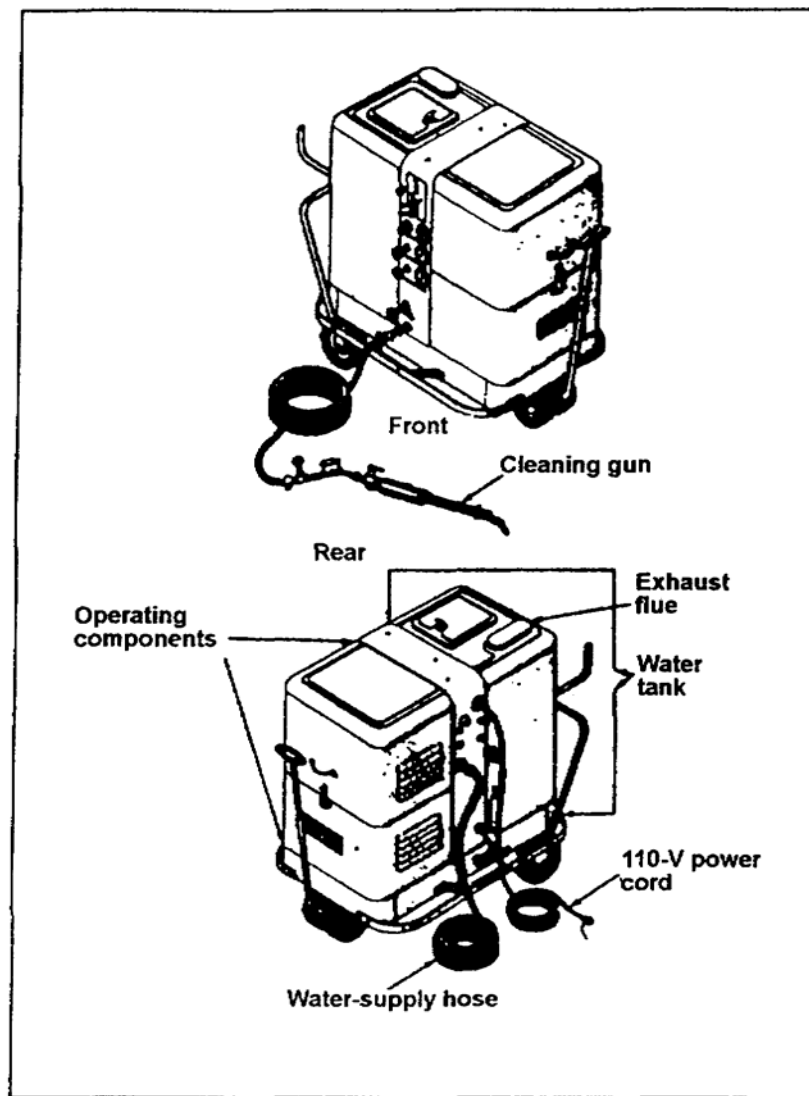

Figure 3-20. Steam cleaner
(4) The following instructions are for a typical abrasive-blasting unit. You must check your operator's manual on your specific blaster, as each unit has its own peculiarities. You should-
h. Steam cleaners. A steam cleaner (Figure 3-20) consists of a metal cabinet that houses such components as an electric motor or gasoline engine and units for individual water, soap, and heating systems. A steam cleaner blends the detergent with water and pumps the solution into a heating unit, where it is partially vaporized. The heat, plus vaporization, generates pressure in the system. The solution is then directed to the cleaning hose and gun from which it is sprayed upon the surface to be cleaned. The detergent and spray, together with impact (friction) caused by high velocity, loosen and remove the dirt and encrustations. After you have completed the cleaning operation, the vaporized spray can be converted into a solid, high-velocity stream of water for rinsing the material you are cleaning.